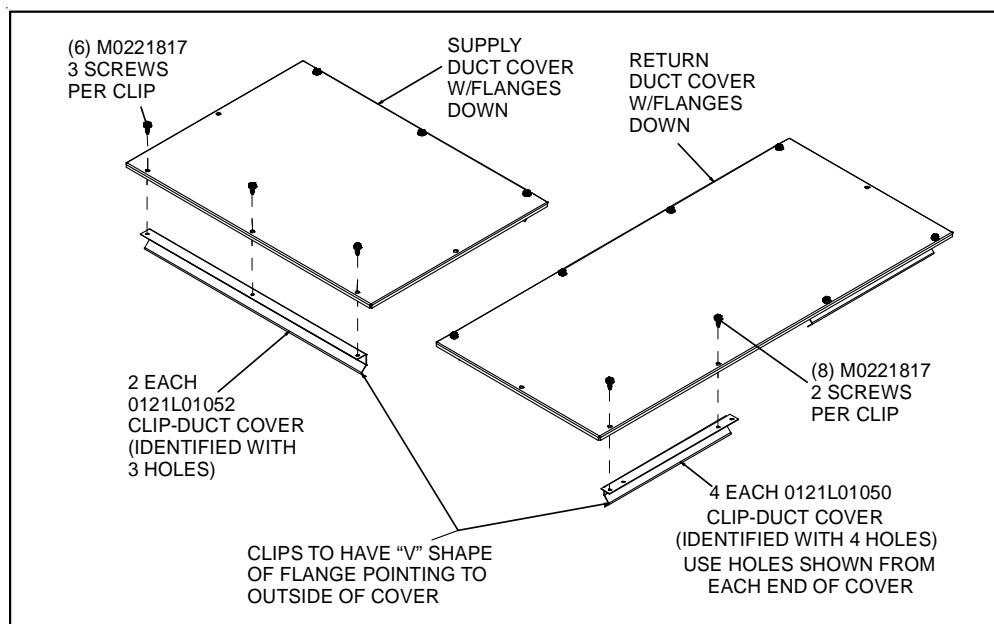
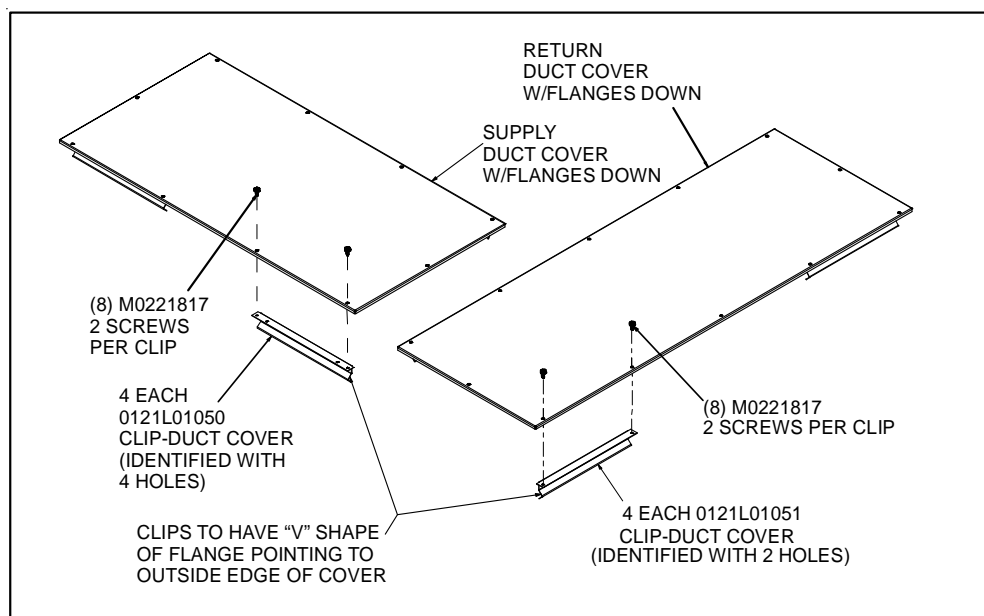

Figure 1A (3-6 Ton Models)
Figure 1B (7.5-12.5 Ton Models)
3. With the insulated side of the panel facing up, attach the clips as shown in Figure 1A for 3 - 6 ton models and Figure 1B for 7.5 - 12.5 ton models.